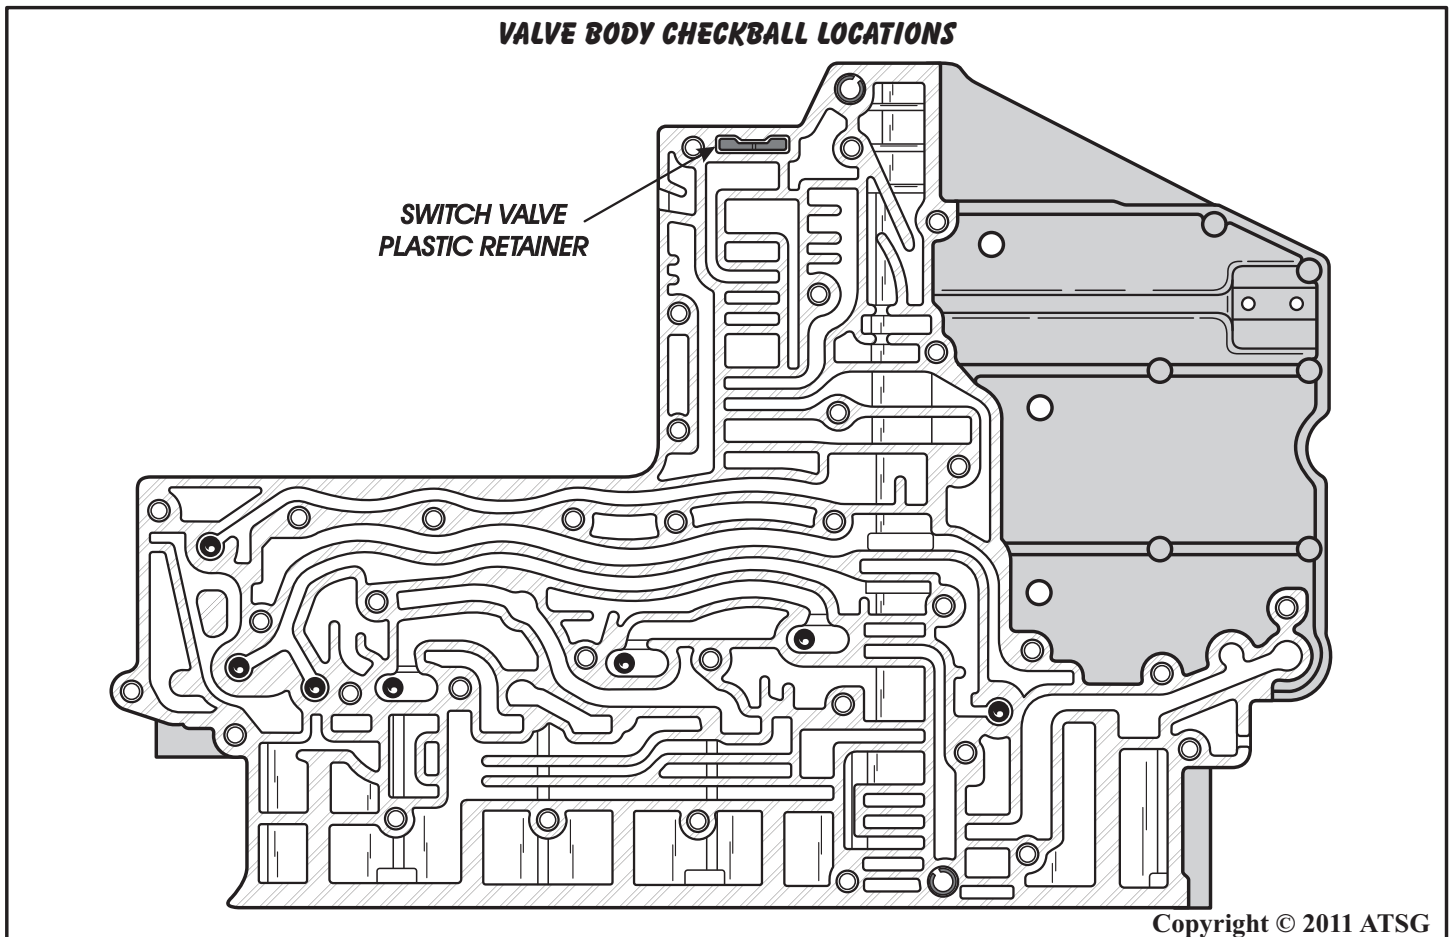

Figure 124
8. Ensure that the solenoid switch valve and the 3 plugs are free in the bore, and that solenoid switch valve plastic retainer is still in place, as shown in Figure 124.
10. Lay the valve body down on a flat surface and install the 7 checkballs into the proper pockets as shown in Figure 124.